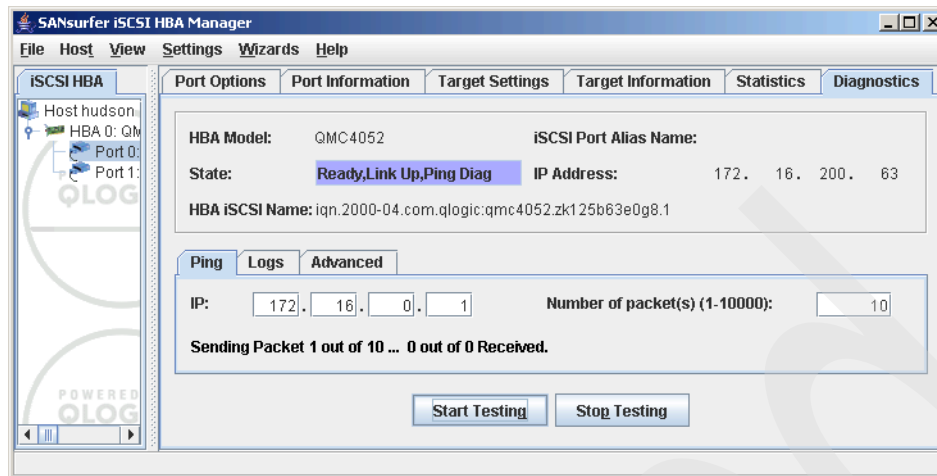

Figure 21-44 SANsurfer - Diagnostic ping ongoing
2. Enter the IP address of a remote host, for example, the IP address of the default gateway. Specify the number of ICMP packets to be sent and click **Start Testing**, as shown in Figure 21-44 on page 509.